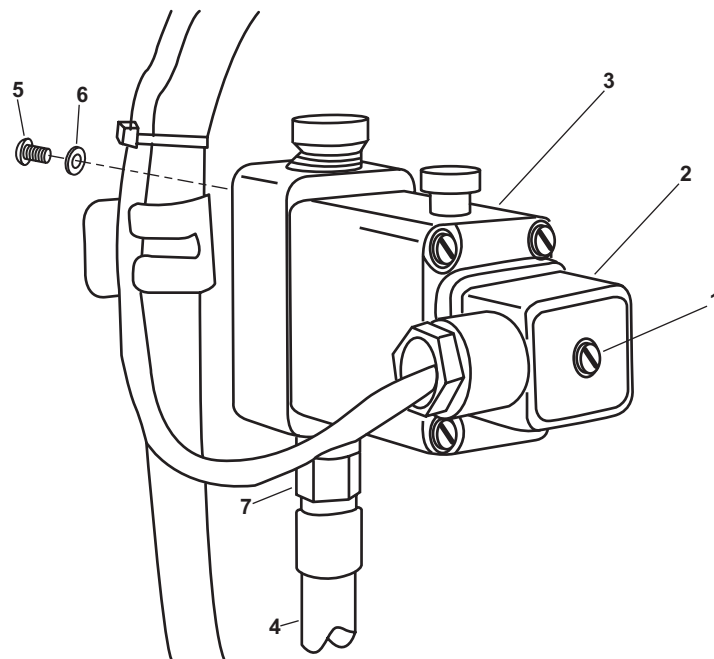

Figure 7. Fresh Water Flush Diverter Valve
5. Remove the screw (figure 7, item 1) that secures the wire plug (figure 7, item 2) to the fresh water flush diverter valve (figure 7, item 3).
6. Disconnect the piping (figure 7, item 4) from the fresh water flush diverter valve (figure 7, item 3).
7. Remove the four screws (figure 7, item 5) and four flat washers (figure 7, item 6) that secure the fresh water flush diverter valve (figure 7, item 3) to its foundation.
8. Remove the pipe fittings (figure 7, item 7) from the fresh water flush diverter valve (figure 7, item 3). Retain the pipe fittings.
1. Wrap the male threads of the pipe fittings (figure 7, item 7) with four wraps of antiseizing tape.
2. Thread the pipe fittings (figure 7, item 7) into place on the fresh water flush diverter valve (figure 7, item 3) and tighten snugly into place.
3. Position the fresh water flush diverter valve (figure 7, item 3) on its foundation and secure it in place with four screws (figure 7, item 5) and four flat washers (figure 7, item 6).
4. Connect the piping (figure 7, item 4) to the fresh water flush diverter valve (figure 7, item 3).
5. Slide the wire plug (figure 7, item 2) onto the fresh water flush diverter valve (figure 7, item 3) and secure it in place with the screw (figure 7, item 1).